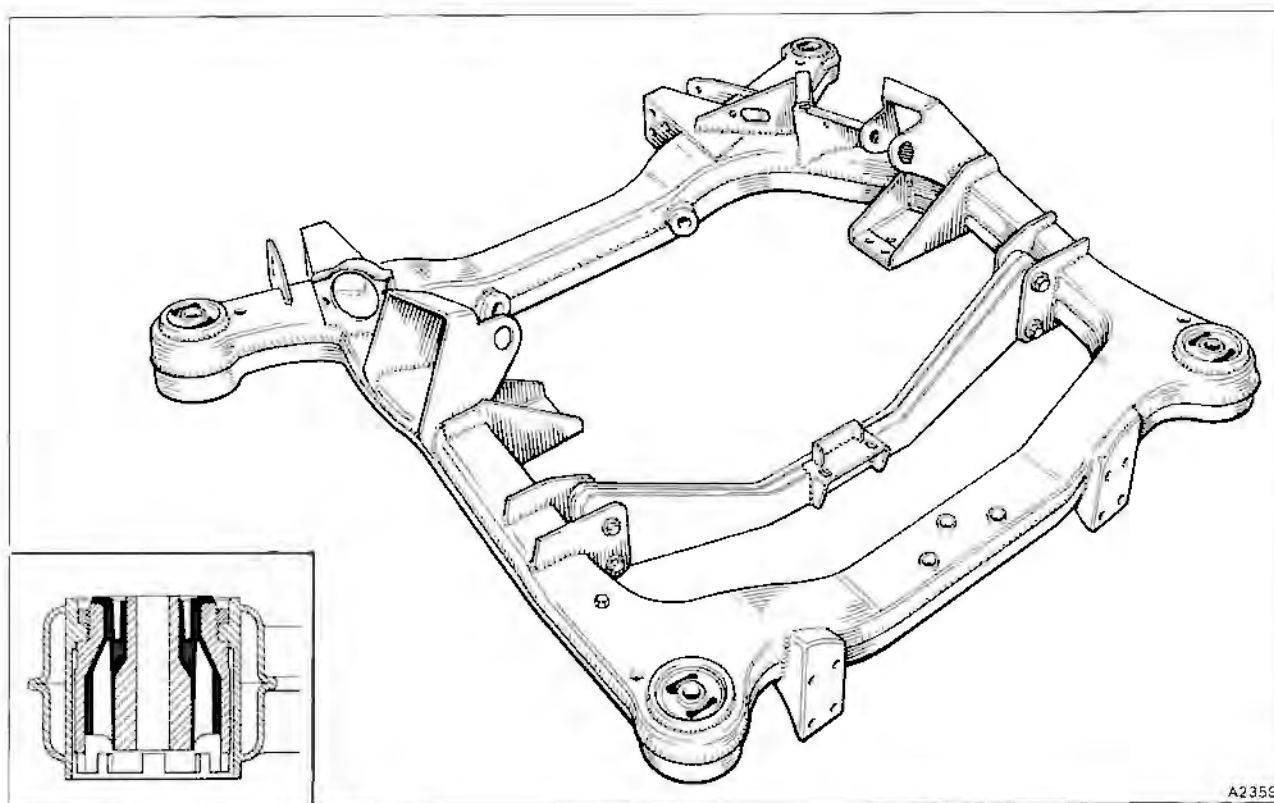

Fig. H3-15 Front sub-frame assembly
3. Insert the mount into position in the sub-frame and fit the lock-ring in the upper well. Screw the mount into the lock-ring. Adjust the lock-ring such that, when the rubber mount is tightened to the figure quoted in Section H13, the slots in the moulded rubber are at right-angles to the centre line of the car (see fig. H3-15).